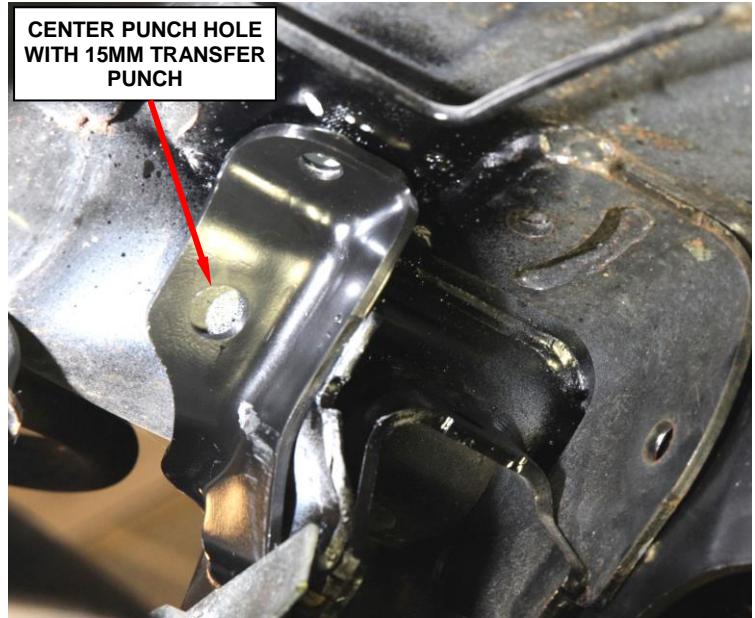

Figure 18 – Center Punch hole with 15mm Punch
28. Mark the remaining rear bracket hole with the supplied 15 mm transfer punch (Figure 18).